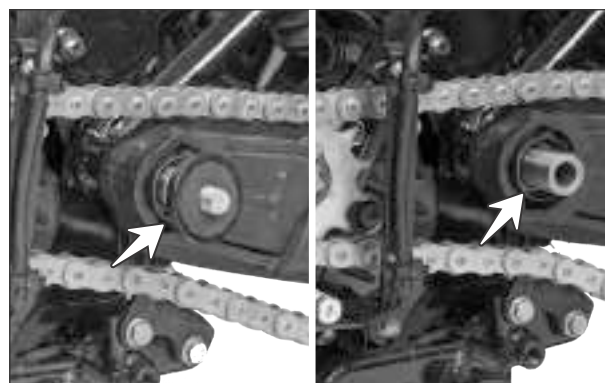

Fig. 2.130
- Now, take out the dust seal swinging arm and sleeve swing arm from the LH side of the swing arm assembly. (Fig. 2.130)